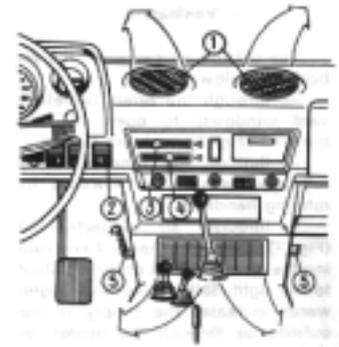

Fig. 9. Heating System Controls:
- through air deflectors 1 (Fig. 9) when lower lever 4